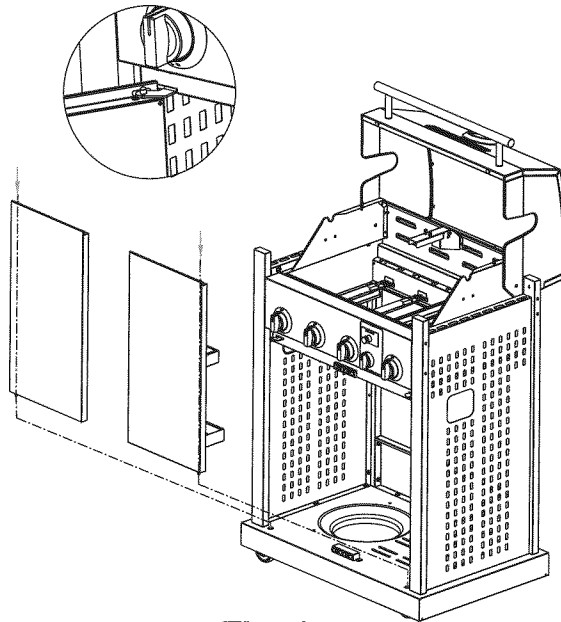

Fig. 8c
2. Insert the lower left door pin into the hole on the bottom shelf. Push down the upper door pin, aligning it beneath the hole in door pin bracket, and release pin so that it inserts into the hole as shown in **Fig. 8c**.